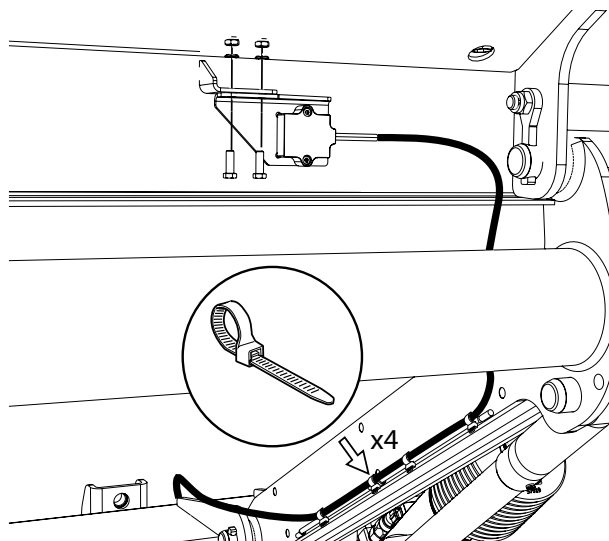

Figure 57. Installing inclinometers
1. Install the inclinometer on the platform using the nuts, bolts and washers supplied and attach the cable using cable ties; see. Figure 57.